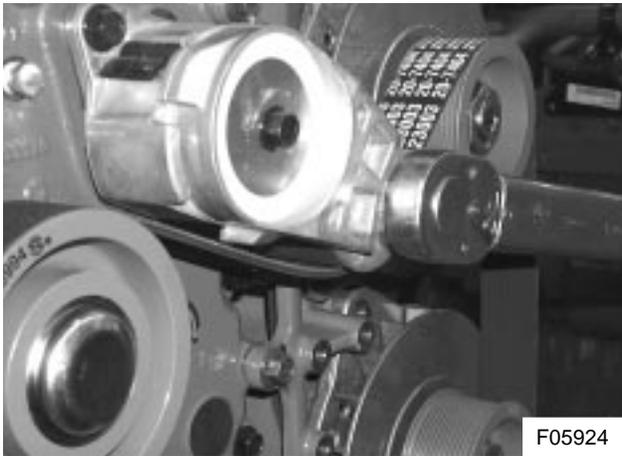

Figure 3: Lifting the belt tensioner
- 2) With a suitable tool, lift the multi-V belt tensioner and remove the drive belt (see Figure 3). Take note of the routing and the direction of travel of the belt.